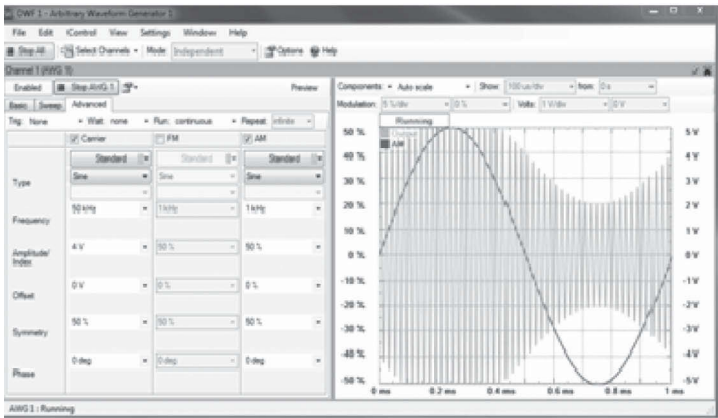

FIGURE 1.11
The available waveforms under the Advanced button are amplitude modulated (AM) and frequency modulated (FM) waveforms. Figure 1.11 shows an example of an amplitude modulated waveform. For the AM wave, the amplitude and frequency of the carrier signal can be selected. In addition, the frequency of the modulating signal and the modulation index can also be selected. For the FM wave (not shown), the amplitude and frequency of the carrier can be selected. In addition, modulating frequency plus the frequency modulation index can be chosen.